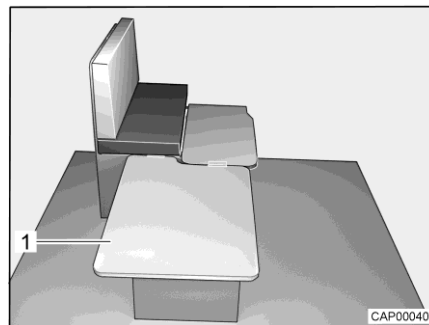

Fig. 51 During conversion
- Hook removable board (Fig. 51,1) in on the side of the bench and place it on the table.